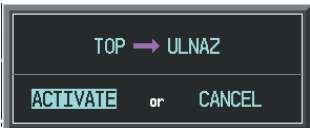

Figure 5-114 Confirm Active Leg
- c) Select the **ACT LEG** Softkey. The confirmation window is now displayed as in Figure 5-114. Note the TOP to SLN leg is actually part of V4.